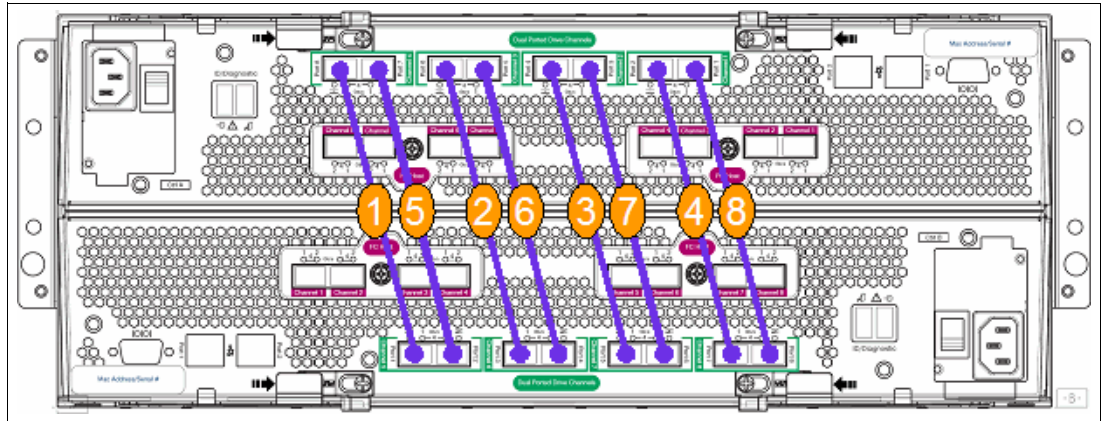

Figure 3-33 Enclosure connections order
The recommended pairing is driven by the connections between FC loop switches within controllers A and B. For attaching the first four enclosures, we recommend using one port of each channel. Because of easier management, performance, and availability, we propose connecting channel pairs in the following order (refer to Figure 3-33 on page 61):
**Note:** The numbering in Figure 3-33 is to help with the growth of a subsystem by adding enclosures. It is not indicative of channel or port numbers.